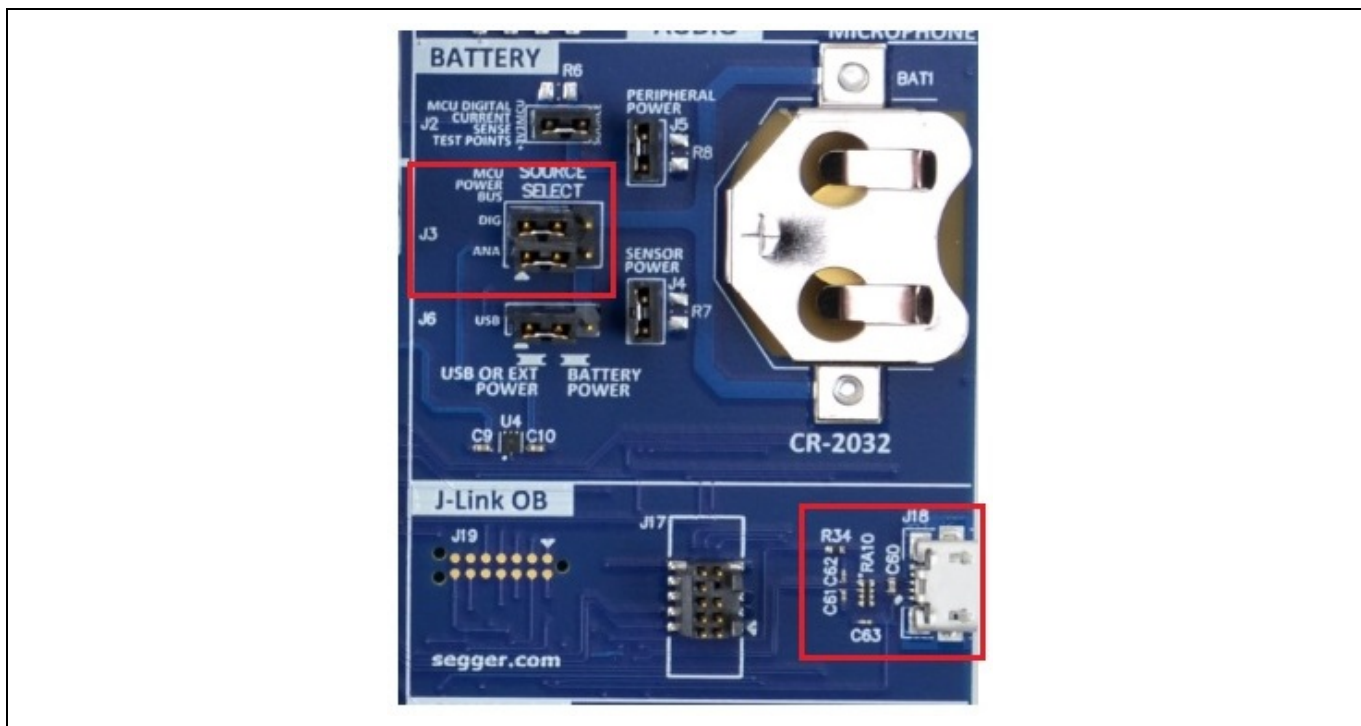

Figure 8. Power setup (top) and SEGGER J-Link® OB connection (bottom)
1. Verify that the J3 header near the battery is configured with two jumpers to make connections 1-3 and 2-4, as shown in Figure 8.
2. Connect the J-Link-OB on DK-S124 connector J18 to the PC using a micro USB cable (Figure 8).